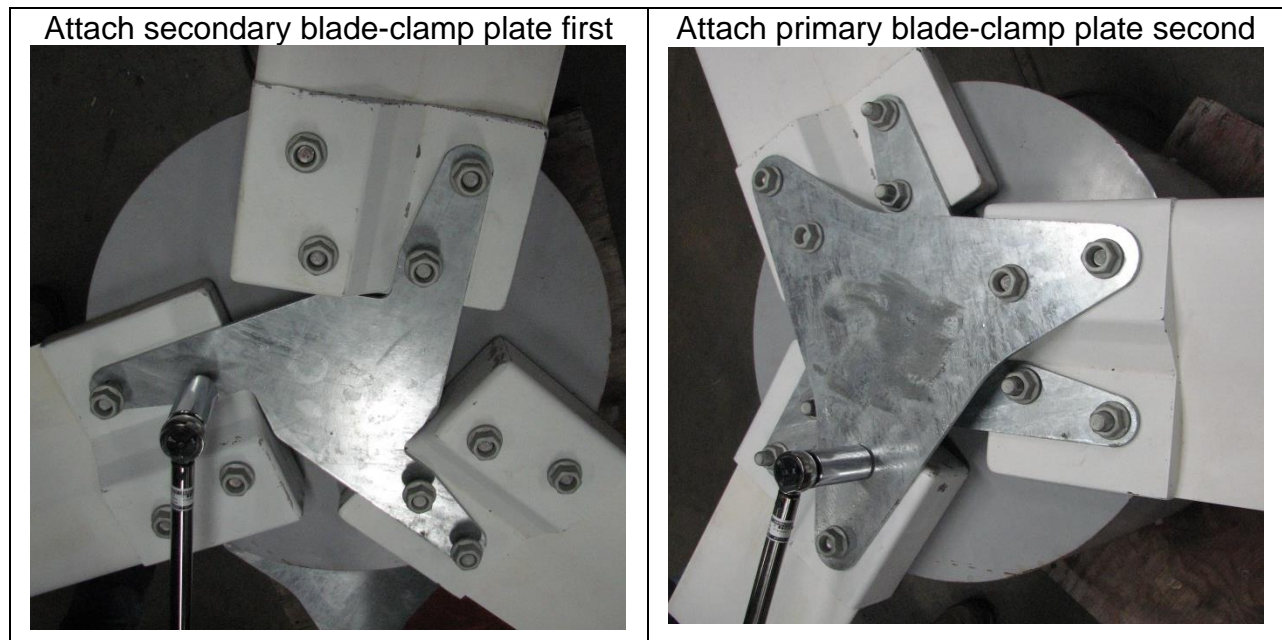

Figure 12: EXCEL Blade, Clamp Plate Attachment
- c. Attach the secondary (inner) blade clamp plate so it fits over the six studs in the **thin** sections of the blade root pads. Only one blade clamp orientation will allow this placement, as shown in Figure 12. Apply blue thread lock on 5-6 bolt threads near the clamp plate on all six bolts then secure the clamp plate on the blade roots using six Spirallock nuts, **torqued to 150 ft-lb (210 N-m)**.
- d. Remove the nuts on the thick sections of the blade roots and attach the main (outer) blade clamp plate so it fits over the six studs in the **thick** section of the root pads. Only one blade clamp orientation will allow this placement, as shown in Figure 12. Apply blue thread lock on 5-6 bolt threads near the plate on all six bolts then secure the clamp plate on the blade roots using six Spirallock nuts, **torqued to 150 ft-lb (210 N-m)**.